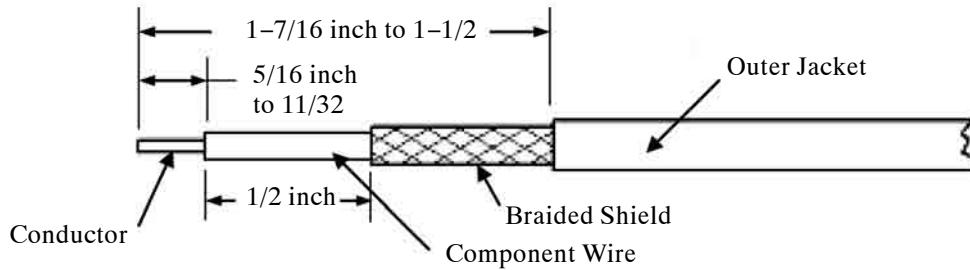

Figure 8. Dimensions for Shielded Cable Splices
- (3) Ensure wire is stripped to correct length (Figure 8).
- (5) Ensure finished cable and component wire are stripped to correct length (Figure 8).